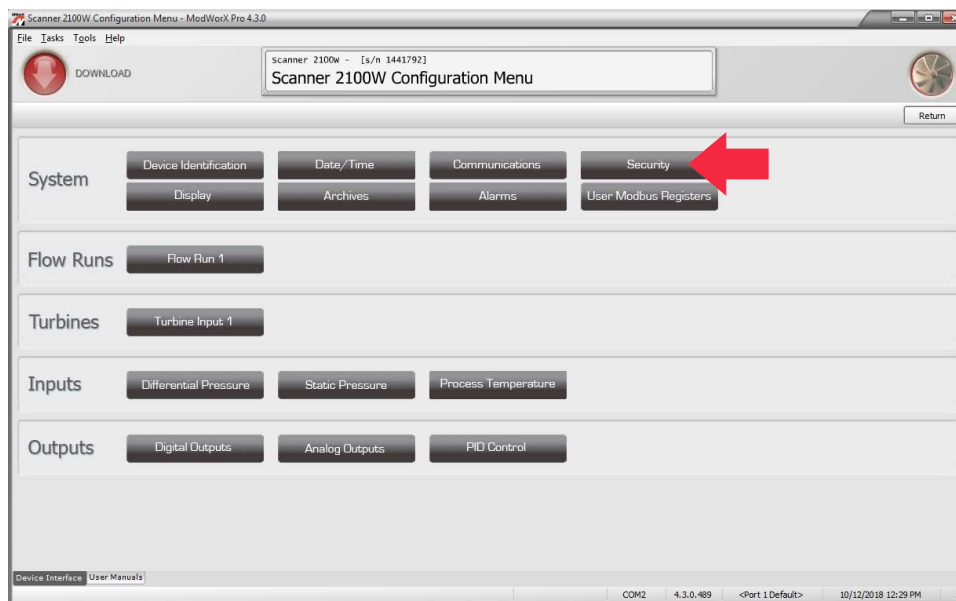
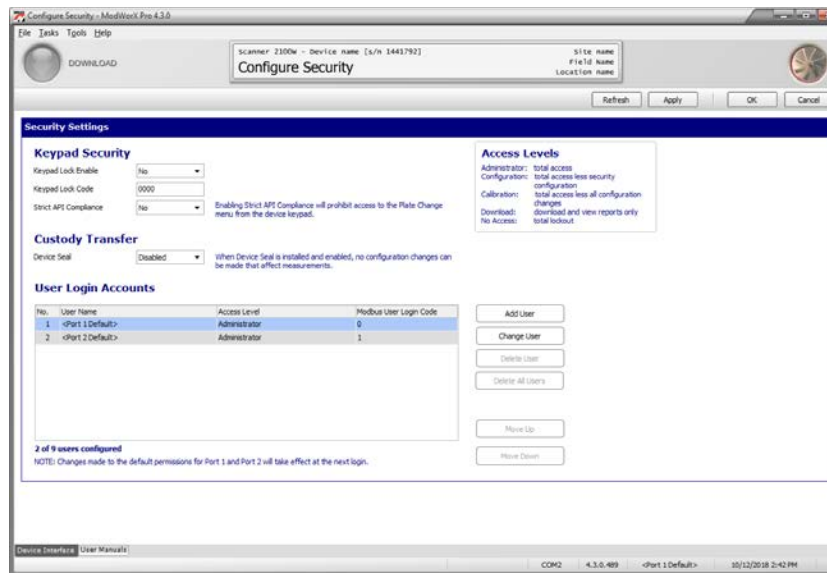

Figure 3.14
Figure 3.15
1. Click the **Configure** button on the Main Display screen. Then, click the **Security** button on the Configuration Menu screen (Figure 3.14). The Configure Security screen (Figure 3.15, page 34) will appear.
When a device seal is installed on a Scanner 2000 for compliance with Measurement Canada custody transfer regulations, the Device Seal status on the Configure Security screen must be set to **Enabled** to prohibit configuration changes that can affect measurements (Figure 3.15). The clearing of flow totals is also prohibited when the device seal is installed and enabled. See the Scanner 2000 Hardware Manual, Part No. 9A-30165023, for instructions on installing the device seal for compliance with Measurement Canada regulations.